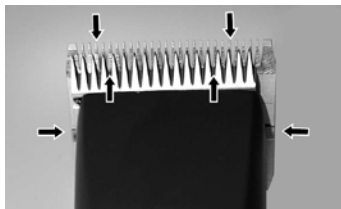

Fig. 21
To receive good clipping results and to increase the durability of the clipper and the clipperhead, it is necessary to apply a thin oil coat between top and bottom blade (fig. 21).
- ▶ Lubricate the blades sufficiently during the clipping (at least every 15 minutes), so that they do not drain (fig. 21).
The blades must be oiled before, during and after every use. When the blades of the clipper are leaving stripes or are running with reduced speed, this is a signal that oil is required. Place a few drops of oil ahead and laterally on the clipper blades (see arrows in fig. 21). Wipe off the excessive oil with a smooth, dry cloth. Lubrication sprays do not have sufficient oil for a good lubrication, but serve for cooling the blades. Immediately change damaged or creased blades to avoid injuries.